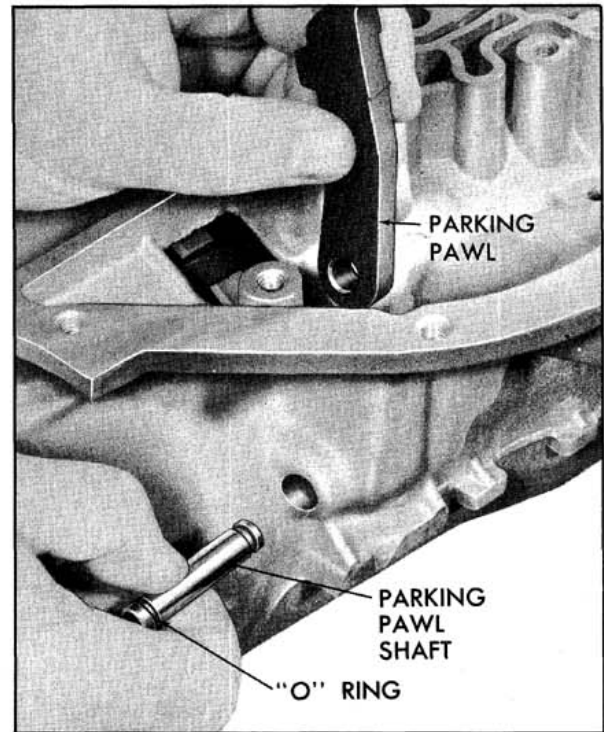

Fig. 6-66 Removing Parking Pawl
- j. Remove parking pawl shaft, "O" ring seal and parking pawl. (Fig. 6-66)